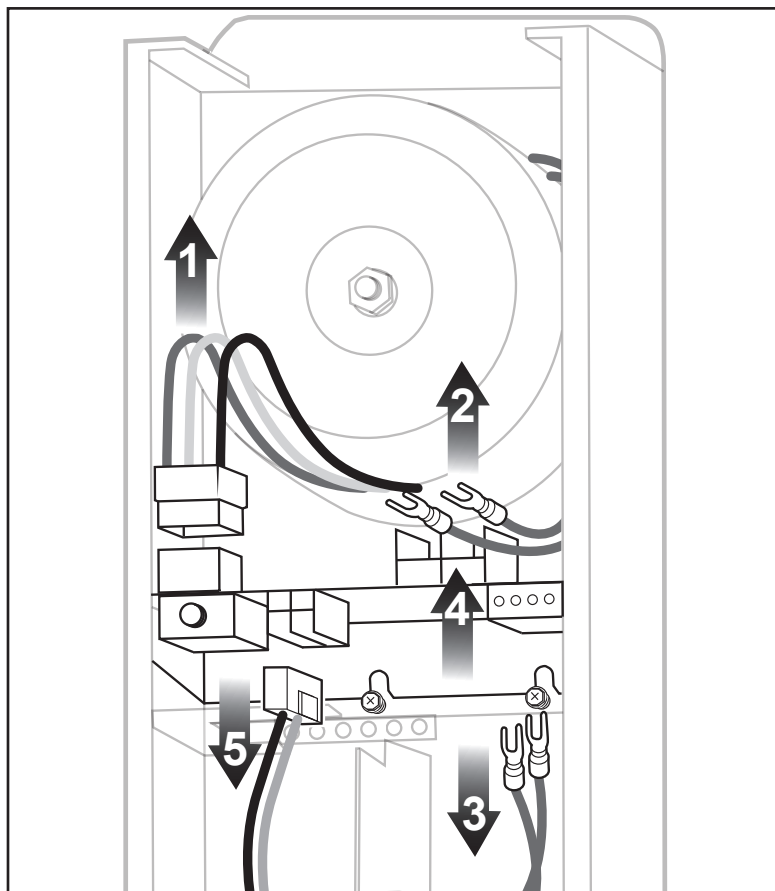

Figure 4. Remove PCBA
4. Unplug white transformer input wire connector harness, see Figure 4 (1).
5. Use a screwdriver to loosen output wire screws enough to remove blue transformer output wires, see Figure 4 (2).
7. Remove the two PCBA lower wire terminals, see Figure 4 (3)
8. Move PCBA bracket up until slots clear the PCBA bracket mounting screws, see Figure 4 (4).
9. Unplug white lower PCBA connector, see Figure 4 (5).
10. Remove the old PCBA from Light Controller, see Figure 4.